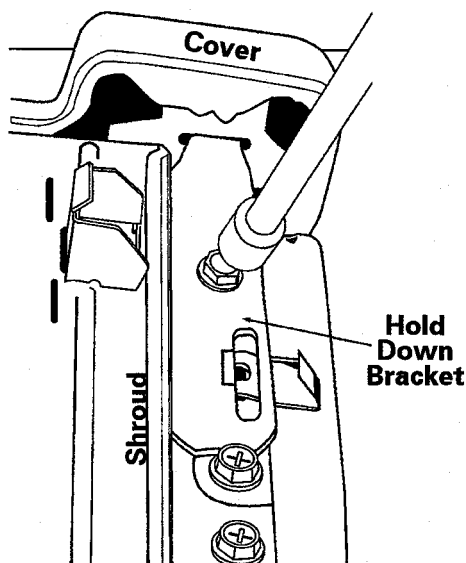

Figure 2-26
2. Locate and remove two 5/16" hex head screws securing the two hold down brackets for the top cover, *see Figure 2-26*.